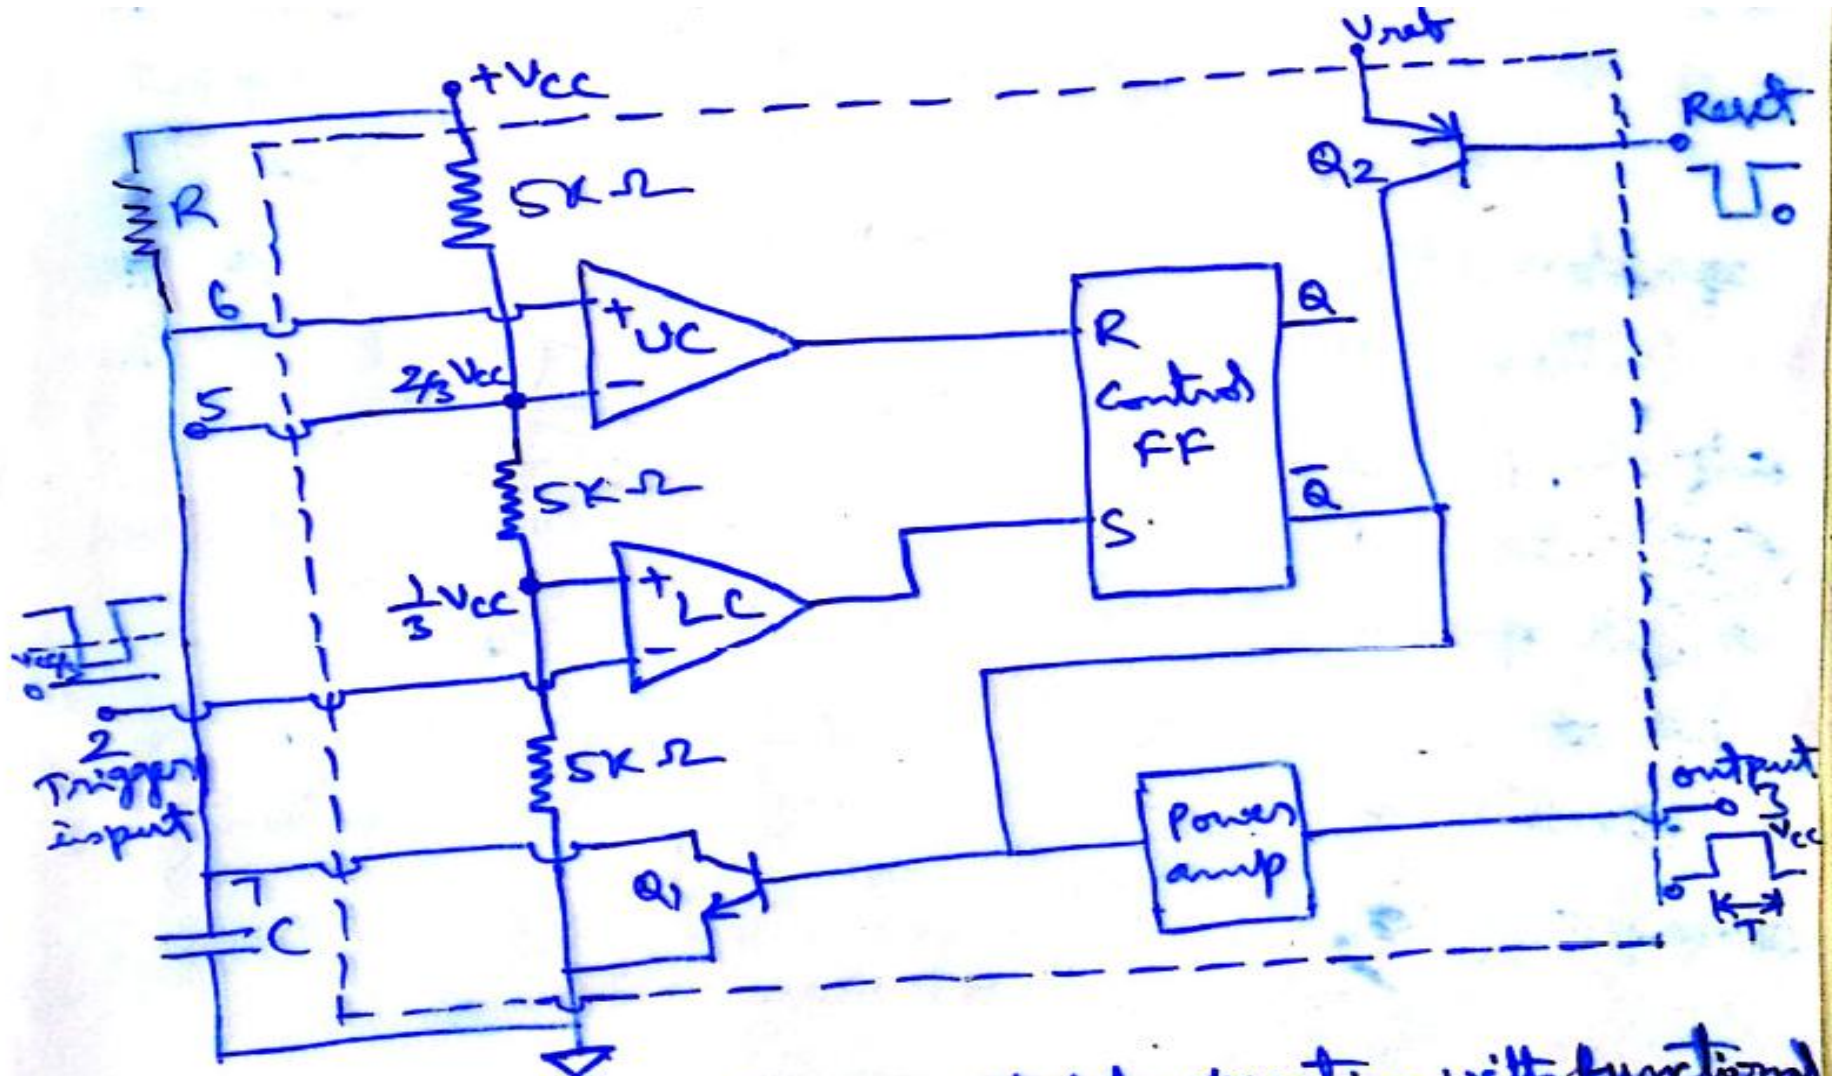

Fig 8-4 Timer in monostable operation with functional diagram..
- Figure 8.3 shows a 555 timer connected for mono stable operation and its functional diagram is shown in Figure 8.4